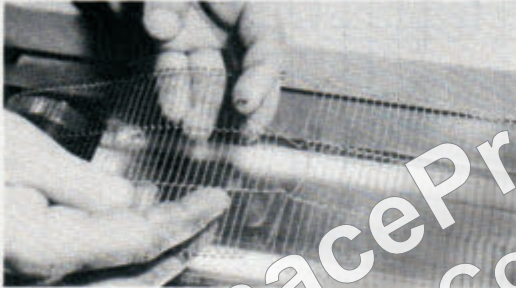

Fig. 7D
- d. Bend the loose link with forefinger and slip it through the center of belt. (Fig. 7C) (Fig. 7D)